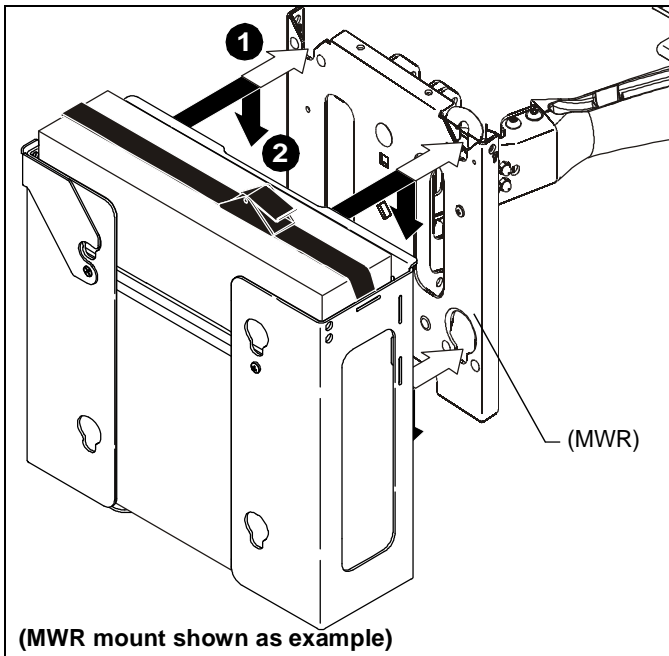

Figure 4
1. While supporting both sides of CPU adapter, align four mounting buttons on CPU adapter with four mounting holes in faceplate of mount. (See Figure 4)
2. Lower CPU adapter into place listening for audible "click" to ensure recessed area of mounting buttons are properly seated in lower area of mounting holes and latching flag or "click lock" mechanism on mount has engaged. (See Figure 4)